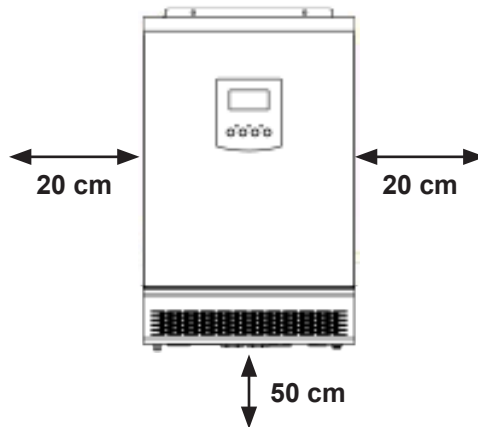
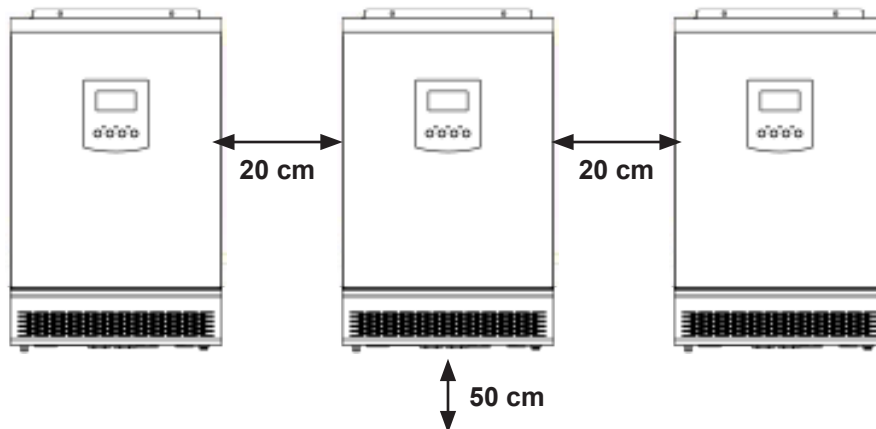

Figure 3.2A
Figure 3.2B
4. For proper air circulation and heat dissipation, make sure there is a minimum of 20 cm distance on each side and 50 cm distance from bottom of the unit (see Figure 3.2A).
5. In single-phase and 3-phase parallel modes, mount each inverter at least 20 cm apart (see Figure 3.2B).
7. Make sure to provide sufficient space as shown in Figure 3.2A and Figure 3.2B to guarantee sufficient heat dissipation and provide adequate space for proper clearance of wiring and communication connections.
8. Secure the Strain Relief bracket to the APS using two (2) included mounting screws below the AC Output wiring pass-through. After the AC wiring is installed, secure wiring with the included zip ties.